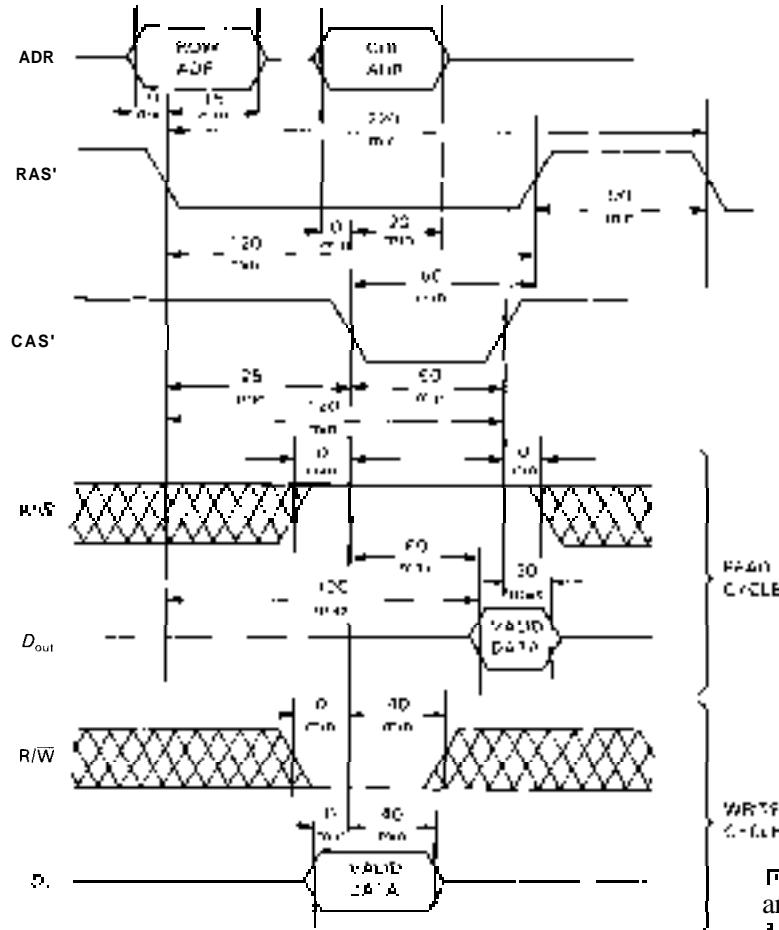

Figure 11.31 DRAM READ and WRITE cycles (Hitachi, 130ns).
**Dynamic RAM.** By comparison with SRAM, DRAM is a royal headache. Figure 11.31 shows a normal cycle. The address (e.g., 20 bits for 1M DRAM) is split into two groups and multiplexed onto half the number of pins, first the "row address,"